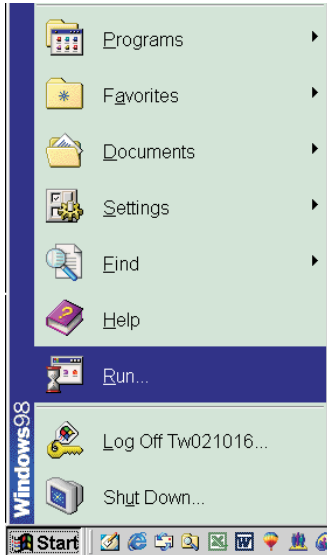

Fig. 4
2. Click  Start, choose Run at start menu of Windows as shown In Fig. 4.